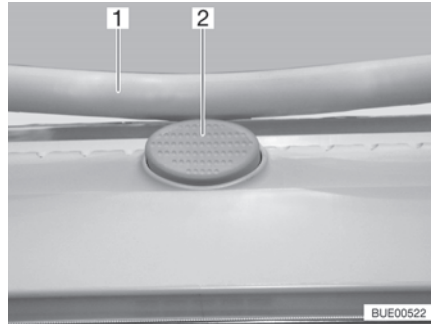

Fig. 30 Safety knob (Heki skylight)
- Press the safety knob (Fig. 30,2) and pull the bar (Fig. 30,1) down with both hands.
- Push the bar upwards with both hands until it is above the safety knob (Fig. 30,2).